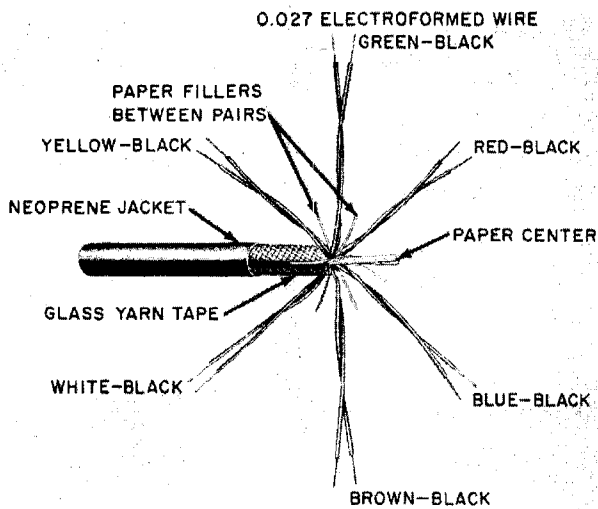

Fig. 2—C Multiple Drop Wire (Early Design)
2.05 Makeup of this wire is shown in Fig. 2.